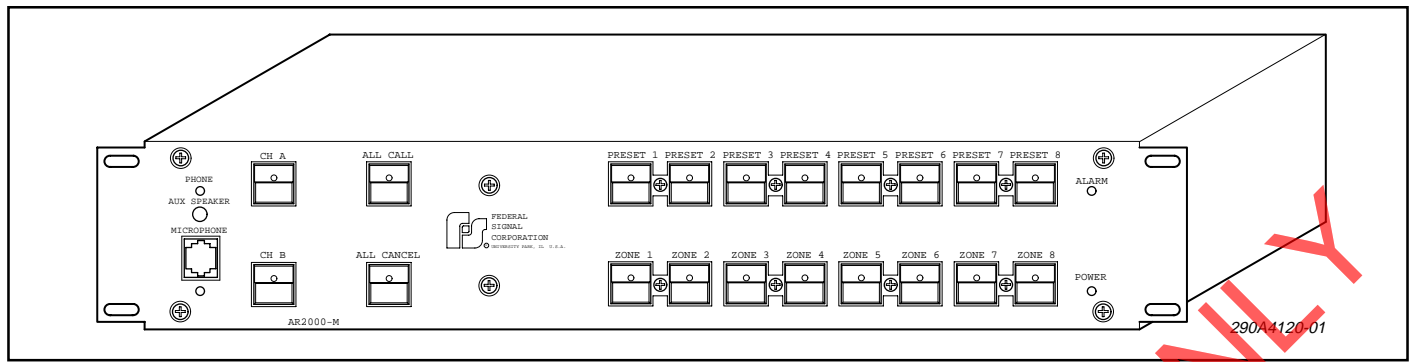

Figure 1-1.
The Model AR2000-M (see figure 1-1) Audio Router, is a UL listed and cUL certified central control device that is capable of routing a selected audio input to specific zones. It can control signals to speakers designed for 25Vrms line operation or 70Vrms line operation. It can also control 1Vrms signals intended to be amplified with a separate amplification device. The AR2000-M has a public address (PA) function so voice messages or instructions can be announced over the Audio Router system through an optional Model MSB-1 or MNC-1 Micro-